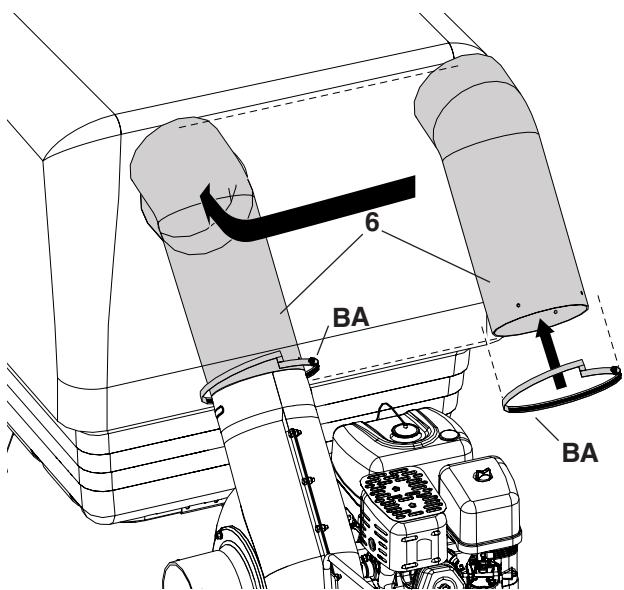

FIGURE 21
- Push the curved end of the 8" hose (engine to bed) (6) into the cover (1) and pull the cover's drawstring to secure in place. Place a 8" hose clamp (BA) onto the straight end of the small hose (6). Push the 8" hose (engine to bed) (6) onto the impeller housing and tighten the 8" hose clamp (BA). Do not collapse the hose when tightening the clamp. See figure 21.
- Position the adapter (21) over the deck opening, and check for fit of cutout as shown in figure 21. Trim cutout, if necessary, to allow tilting of adapter, keeping the fit as close as possible for best vacuum suction. See figure 24.